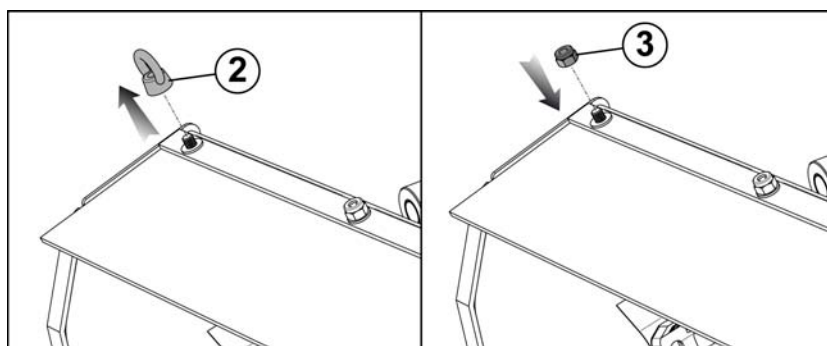

FIG. 4.7
- Remove the eyebolts (2) located in the front part of the rubberized canvas protection, and then fasten the rod in place using the M10 nuts (3) provided (FIG.4.7).